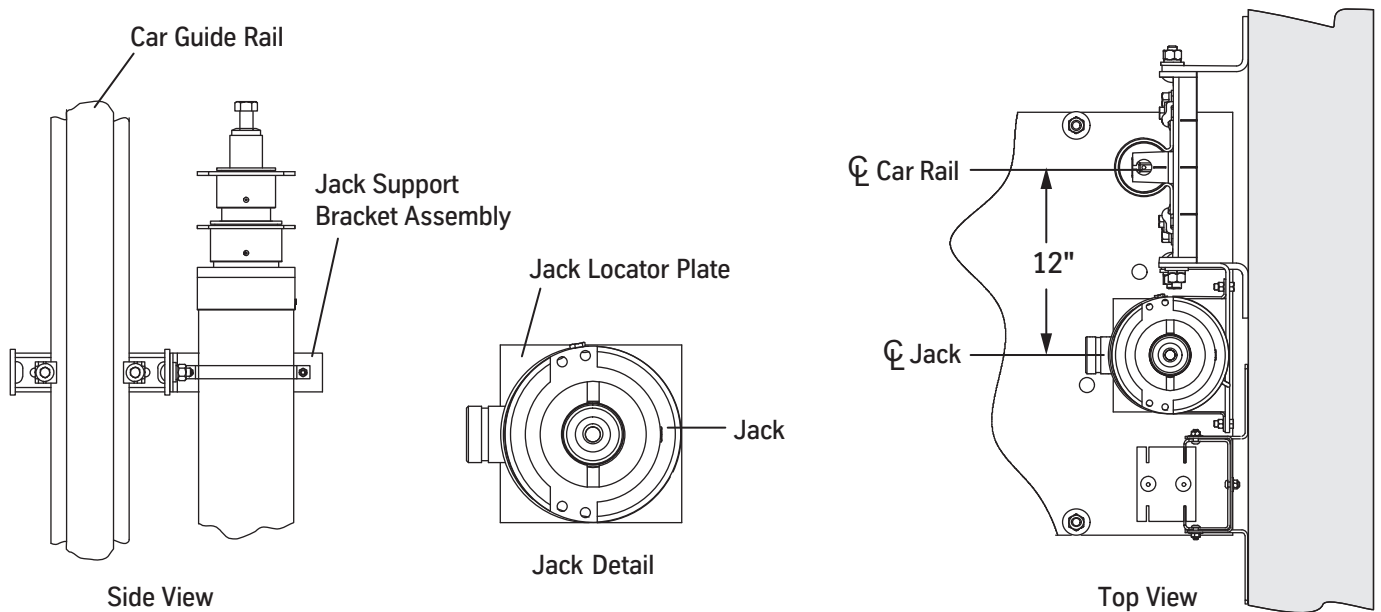
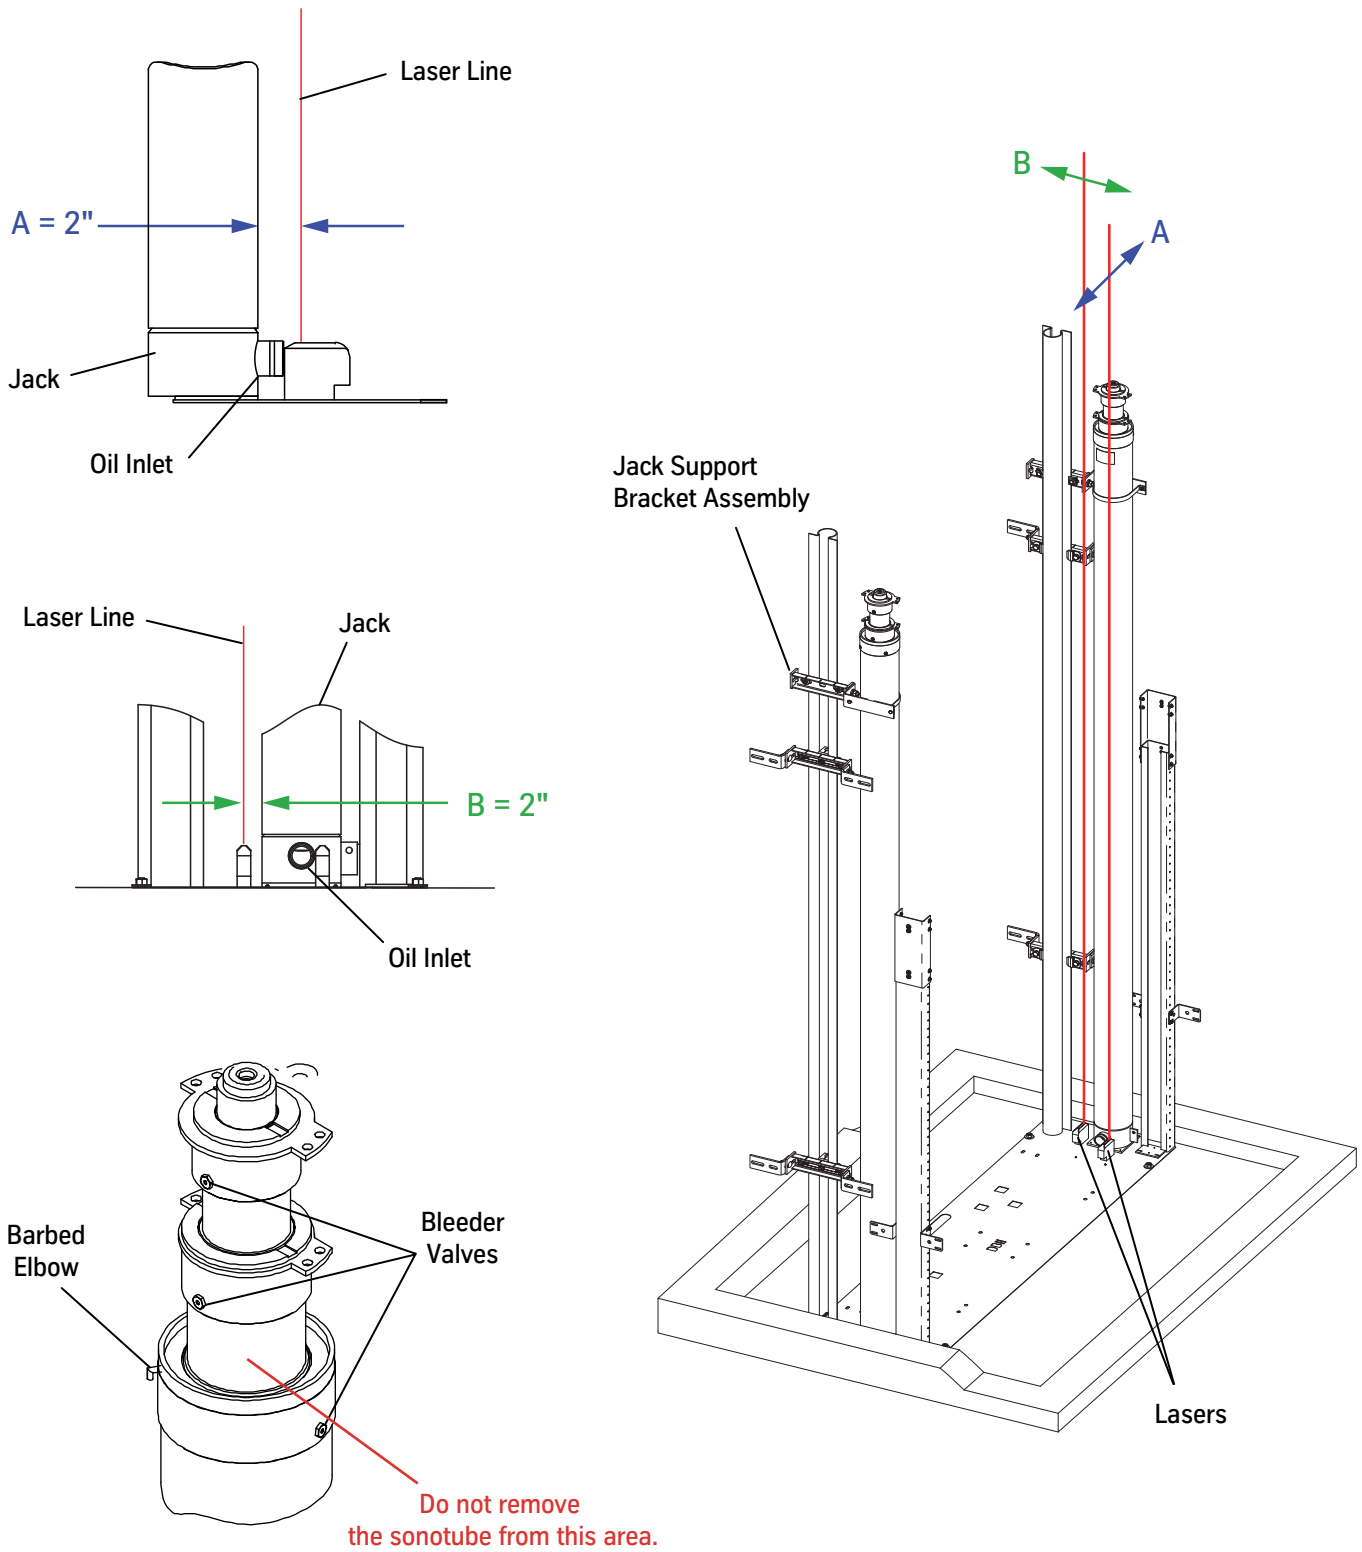

Figure 28 - Telescoping Jack Installation (1 of 2)
Figure 29 - Telescoping Jack Installation (2 of 2)
1. Attach the jack support bracket to the car guide rail just below the top of the jack casing. The jack support bracket does not make the casing rigid. See Figure 28 below and Figure 29 on page 54 for all steps in this procedure.